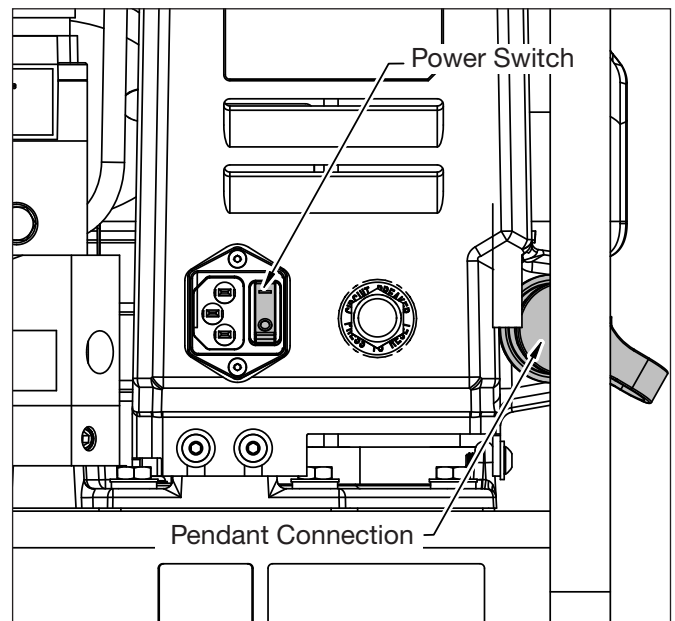

Figure 2: Power Cord & Pendant Connection
2. Install proper power cord into socket shown in Figure 2.
3. Remove the dust cap from the connector at the front of the pump and connect the pendant cable. See Figure 2.
4. Be sure the pump switch is "OFF" (O). See Figure 2.